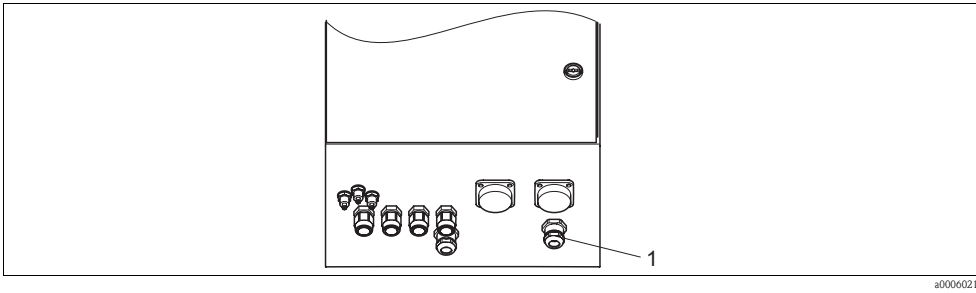

Fig. 21: Guiding the level probe cable
- 1. Guide the cables of the level probes for the buffer and cleaner through the threefold Pg gland behind the multihose connection (see Fig. 21).